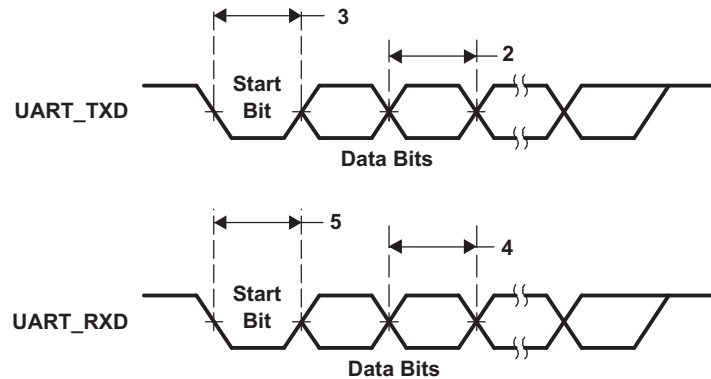

Figure 5-29. UART Transmit/Receive Timing
Table 5-30. Timing Requirements for UART Receive⁽¹⁾⁽²⁾ (see Figure 5-29)
(1) U = UART baud time = 1/programmed baud rate.
(2) These parametric values are measured at DV_{DDIO} = 3.3 V, 2.75 V, and 2.5 V
Table 5-31. Switching Characteristics Over Recommended Operating Conditions for UART Transmit^{(1) (2)} (see Figure 5-29)